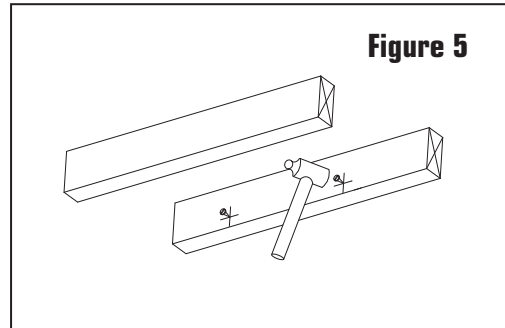

Figure 5
4. Remove the housing and drive the screws part way into the joists at the marked locations. (Figure 5)